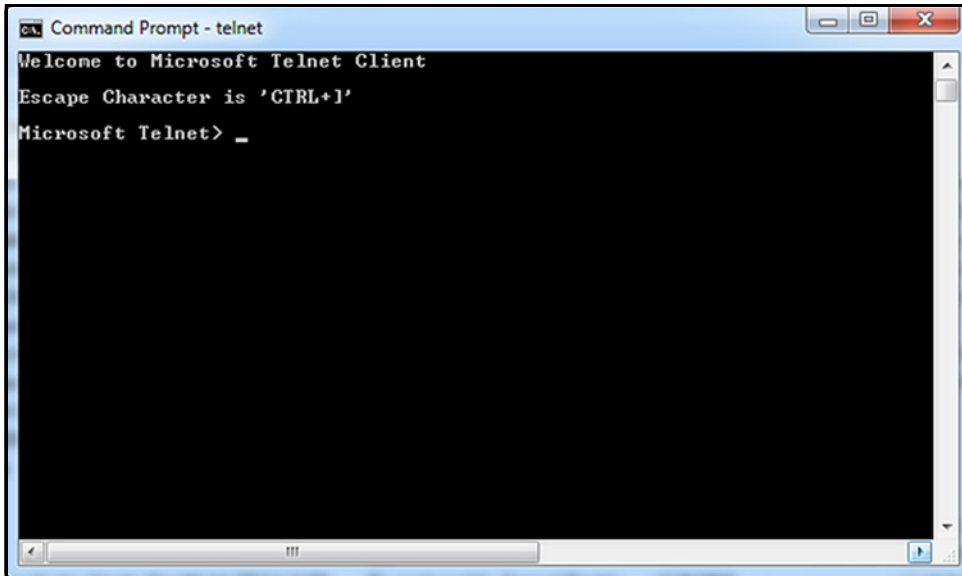

Figure 114: Telnet Client
1. At a Windows command prompt, enter telnet to run the Telnet client (see *Figure 114* below).